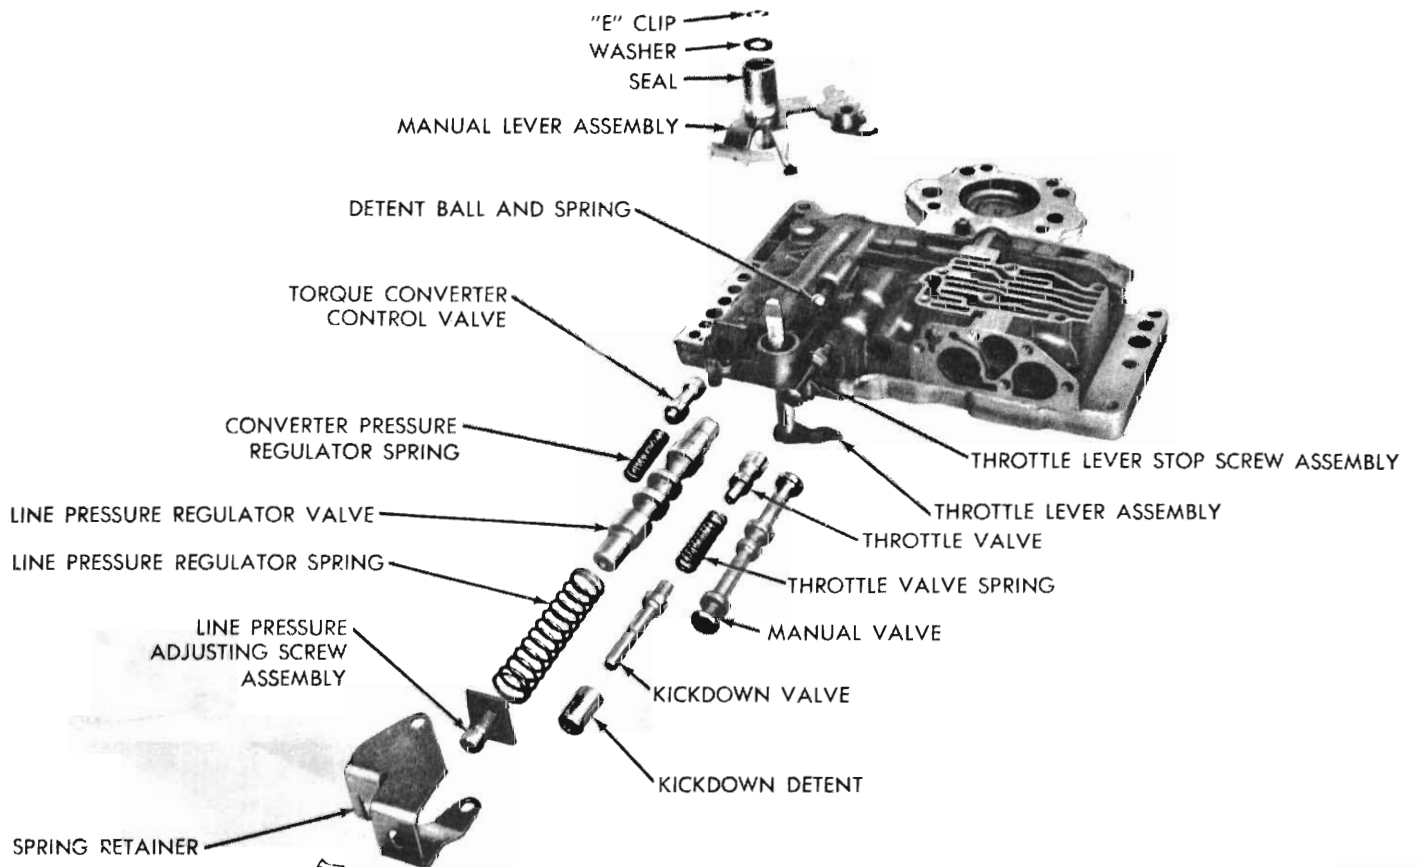

Fig. 57 - Pressure regulators and manual control (A-727 and A-904-LA)
(1) Hold spring retainer firmly against spring force while removing last retaining screw from valve body (Fig. 57).
(2) Remove spring retainer, line pressure adjusting screw assembly (do not disturb setting) and the line pressure and torque converter regulator springs.
(3) Slide torque converter and line pressure valves out of their bores.
(4) Remove E-clip and washer from throttle lever shaft (Fig. 57). Remove any burrs from shaft, then while holding manual lever detent ball and spring in their bore with Tool E21C15A or similar tool (Fig. 59), slide manual lever off the throttle shaft. Remove the detent ball and spring.
(5) Slide manual valve out of its bore.
(6) Remove throttle lever stop screw assembly from valve body and slide out the kickdown detent, kickdown valve, throttle valve spring and the throttle valve.
(1) Slide shift valves and springs into proper valve body bores.
(2) If so equipped, sub-assemble the downshift housing as follows:
(3) Install end plate and tighten screws to 28 lbs. in.
(4) Install throttle pressure plug, line pressure plug, and sleeve then fasten end plate to valve body. Torque to 28 lbs. in.
**Pressure Regulators and Manual Control (Fig. 57)**
(1) Install throttle valve, throttle valve spring, kickdown valve, kickdown detent and throttle lever stop screw with lock nut (do not adjust yet).
(2) Slide manual valve into its bore.
(3) Install throttle lever and shaft on valve body (Fig. 57). Insert detent spring and ball in its bore in valve body. Depress ball and spring with Tool E21C15A (Fig. 59) or similar tool and slide manual lever over throttle shaft so that it engages manual